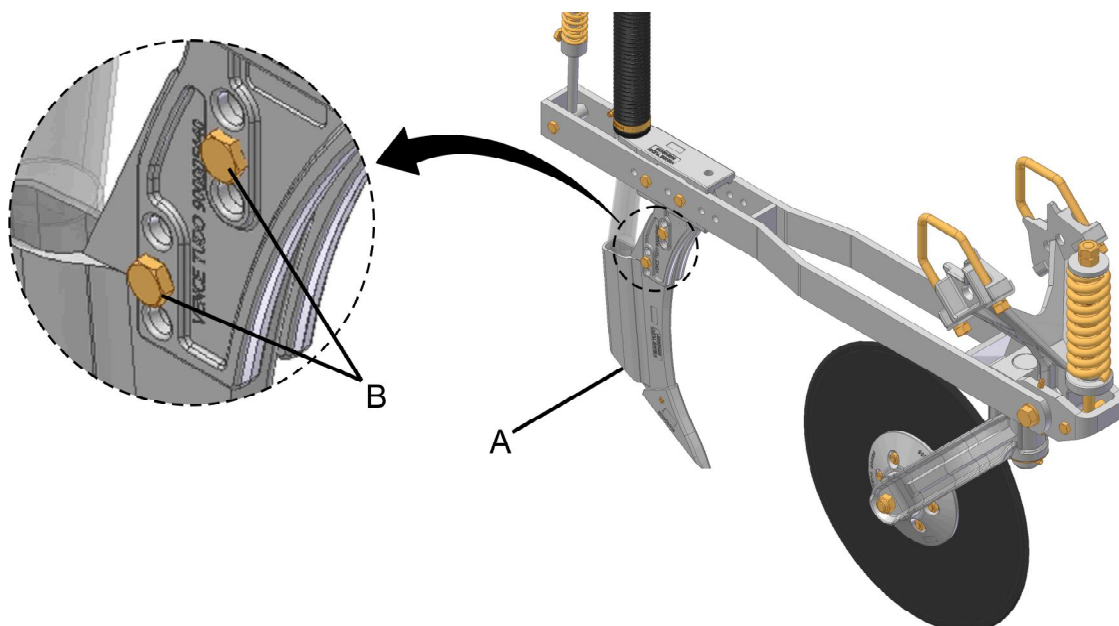

fig. 21
The position of furrow opener can be adjusted in the vertical direction. So, just release the knife furrower (A) (fig. 21) and change the depth of furrow changing the position the screws (B).